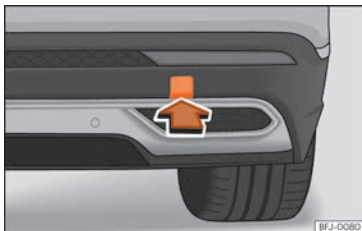

Fig. 47 On the right side of the rear bumper: remove the cover.
The housing of the screw towing eye is on the right side of the rear bumper behind a lid » **Fig. 47**.
- Press the bottom side of the lid » **Fig. 47** to unclip it.